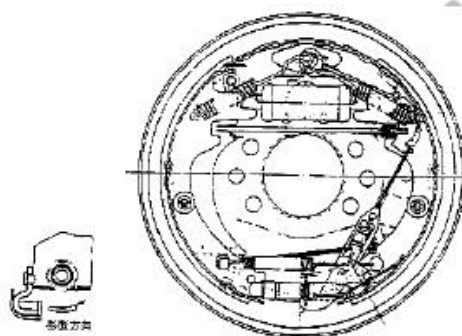

Figure 13
3、 The operation test of automatic gap adjuster shown as in Figure 13